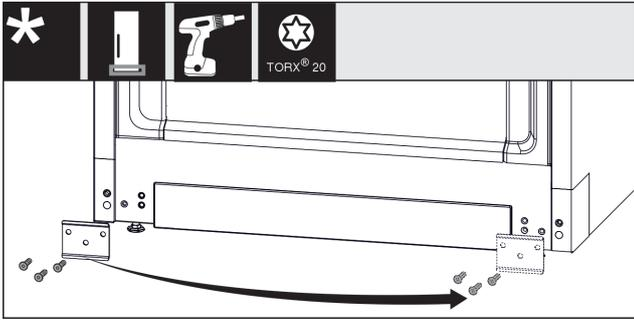

Fig. 13
- Unscrew the metal plate, move it to the other side and screw it on again. Fig. 13 (1)